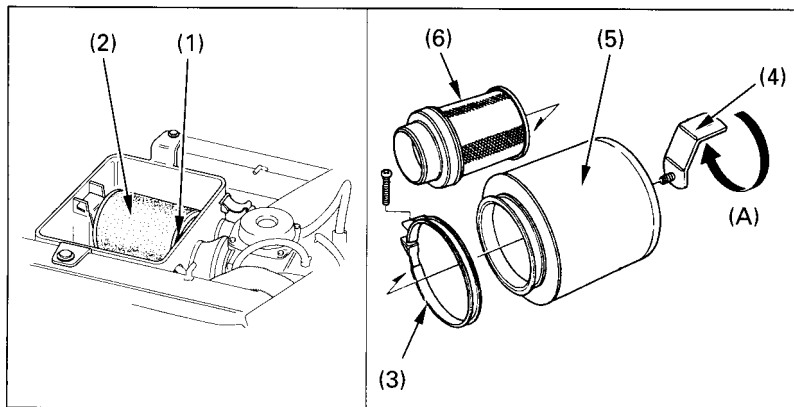

Fig. 4-5
3. Remove the screws (1) (Fig. 4-5) and remove the air cleaner assembly (2) from the air cleaner housing.
4. Unscrew the clamp (3) and remove the mounting bracket (4).
5. Remove the air cleaner (5) from the air cleaner body (6).